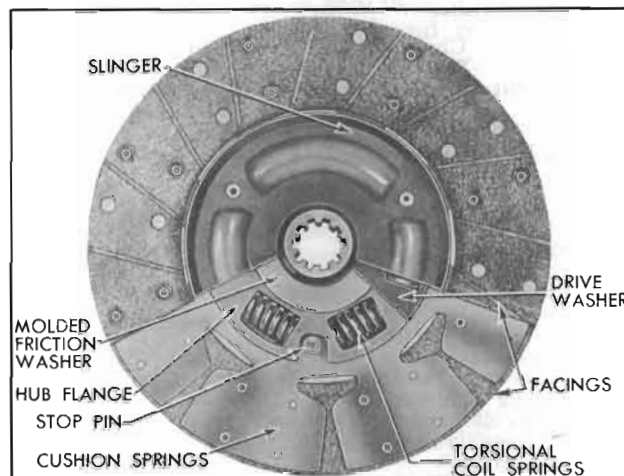

Figure 4-2—Driven Plate—Transmission Side
The outer area of the driven plate is divided into segments which are formed in low waves to provide springs between the plate facings and thereby cushion engagement of the clutch. A woven facing, grooved to give quick release, is riveted to each side of every segment of plate. When the clutch is fully released, the waved segments cause the facings to spread approximately $.050''$ and the movement of pressure plate provides an additional clearance of approximately $.030''$ to assure full release of driven plate. See figure 4-2.
3. *Clutch Driven Plate.* Inspect driven plate for condition of facings, loose rivets, broken or very loose torsional springs, and flattened cushion springs. See figure 4-2.